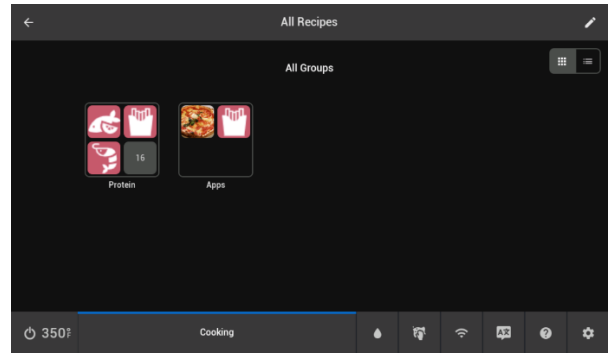

Figure 6 - All Recipes
- Select any group to view a configured subset of the recipes or **View All** to see all available recipes on the unit **Figure 6**